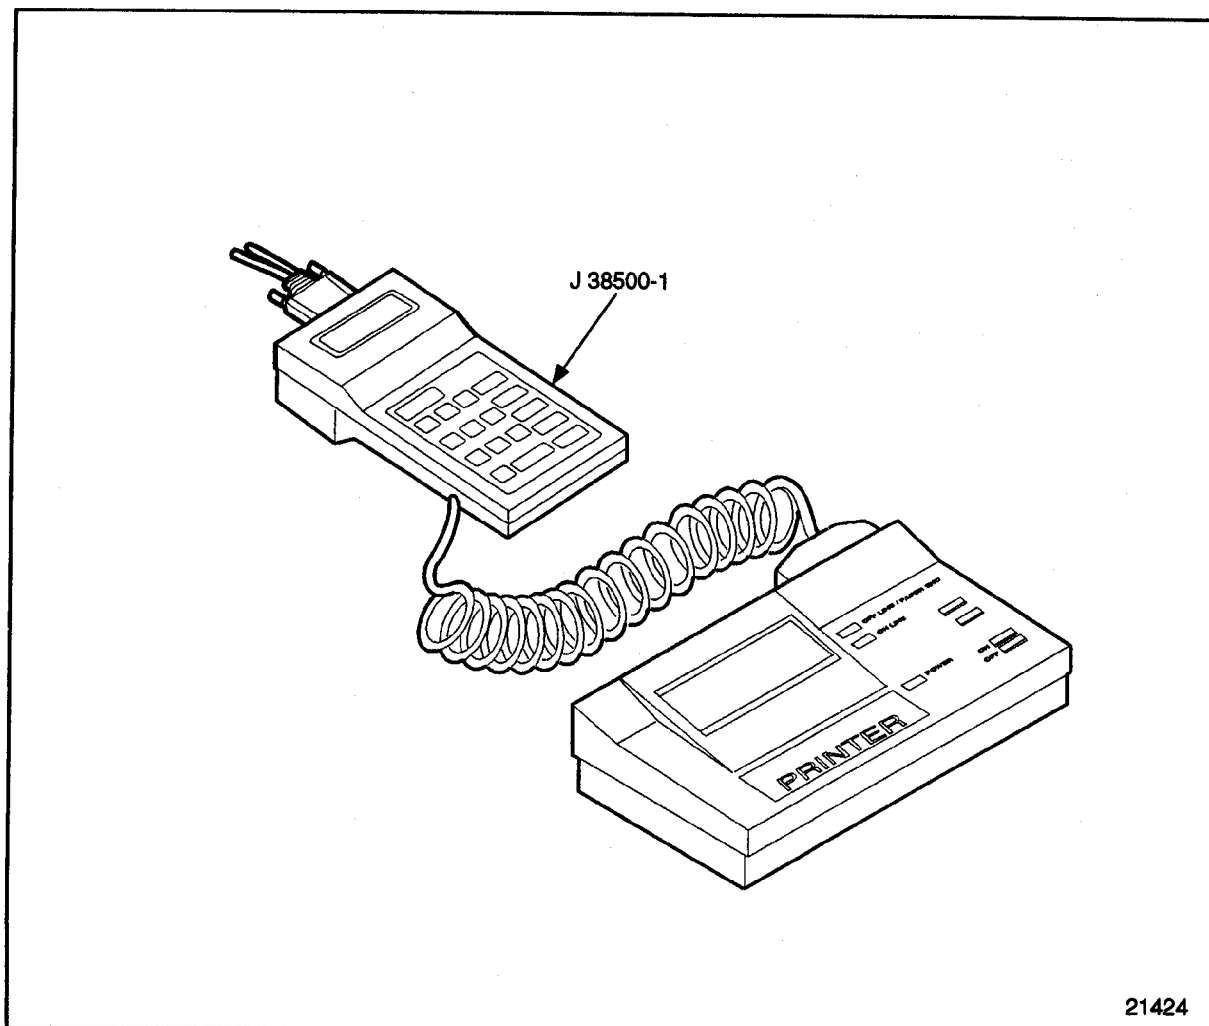

Figure 2-76 The DDR and Printer
1. A DDR can be used to read the codes. See Figure 2-76.
2. A personal computer (PC) connected to the ECM through a translator device which converts J1708 to RS232 protocol can be used.
The hand-held DDR is used on engines equipped with DDEC III/IV to display engine description, diagnostic data, fault codes, and to program the ECM calibration. A printout of the information displayed on the DDR, can be obtained by attaching a printer. The diagnostic data reader kit, J 38500-D, includes a reader, cable, carrying case, DDEC cartridge, manual, and a six-pin adaptor. See Figure 2-76.